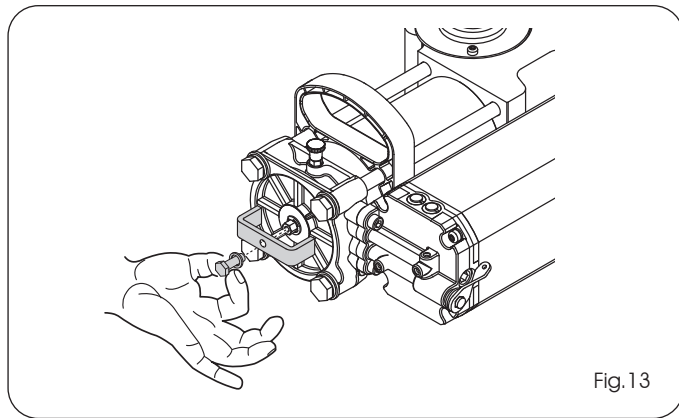

Fig.13
- 5) Fasten the supplied U-bracket (Fig.13) on the travel-limit stop nut.
- 9) Fasten the supplied U-bracket (Fig.13) on the travel-limit stop nut.